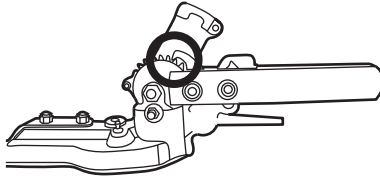

Fig. 15c
d). Release the unlock levers (C3) when the desired angle is adjusted. Ensure that the hook engages between two teeth of the tooth wheel. (See Fig. 15c)